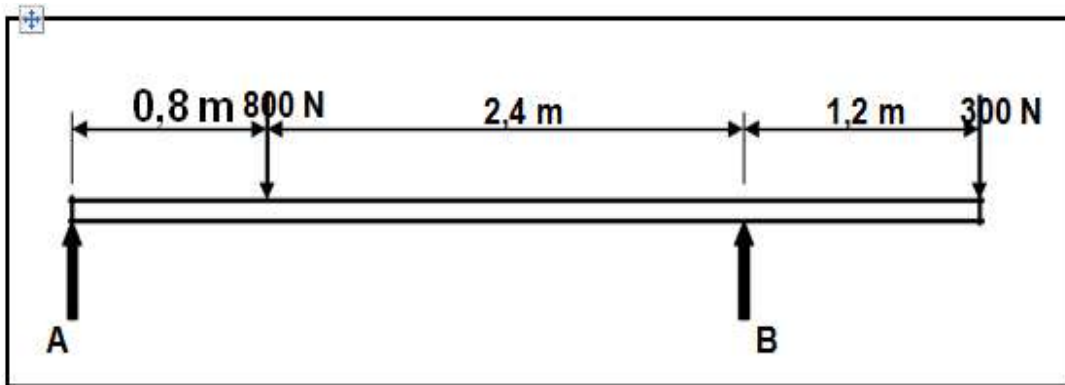

FIGURE 6.1
- 6.1 The diagram in FIGURE 6.1 below shows a beam supported by two vertical supports, A and B. Two vertical point loads of 800 N and 300 N are exerted onto the beam. Calculate the magnitude of the reactions in supports A and B.